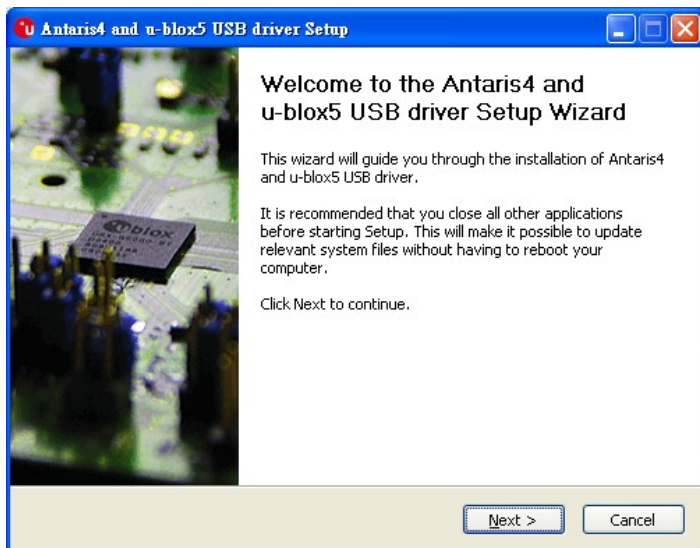

Figure 5-31: GPS Driver Welcome Screen
- Step 5:** The **Welcome** screen in **Figure 5-31** appears.
**Step 4:** The **Welcome Screen** in **Figure 5-31** appears.